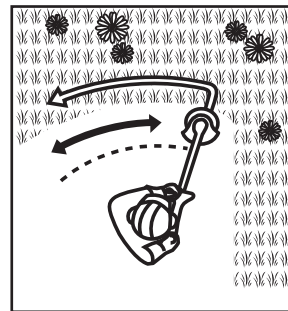

Fig. 17
6. Move the product with a slow regular arc from left to right before moving it back to the starting position before trimming the next area (Fig. 17).